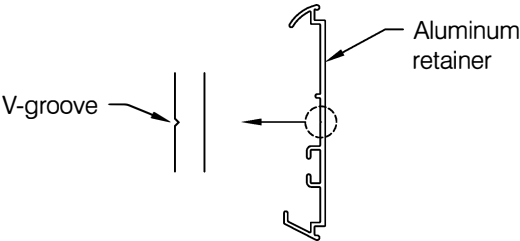

fig 2
- Step 3:** Pre-drill clearance holes for wall mounting in aluminum retainer along the V-Groove provided in the retainer, see **fig 2**. Use a #15 (.180") bit for #8 fastener or a #7 (.201") bit for #10 and 3/16" fasteners. Space holes at 32" on center. Adjust spacing to accommodate studs as necessary. Do not pre-drill at locations that will interfere with installation of molded accessories.